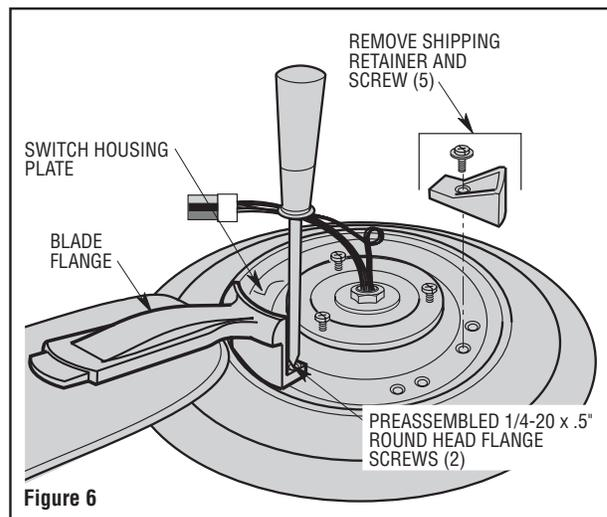

Figure 6
10. Carefully unscrew each shipping retainers from the motor housing. Discard the five screws and shipping retainers (Figure 6).
11. Attach the blade assembly to the motor hub using the two 1/4-20 x .5" round head flange screws preassembled in flange. Make sure the screws are tightened securely (Figure 6).